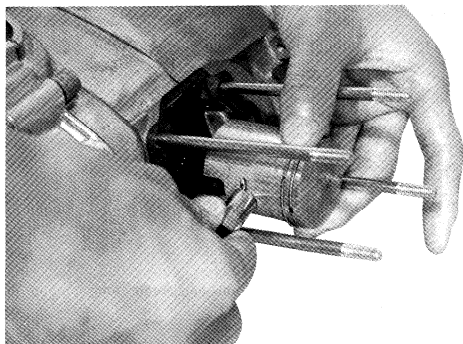

Fig. 5-4-2
2. Cover the crankcase opening with clean rags to prevent a piston pin circlip from dropping into the crank chamber when removing it. Remove one piston pin circlip from the piston with a small screw driver or nose pliers. (Fig. 5-4-1) Be careful not to lose piston pin circlip as some times it springs away. Now piston pin can be removed easily by pushing the other end of it with a rod. (Fig. 5-4-2)